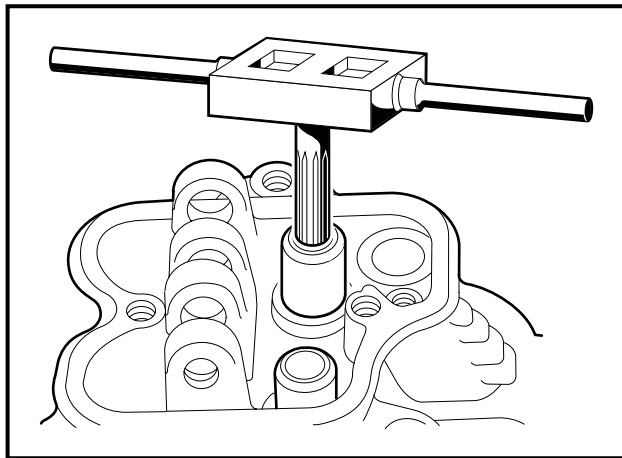

Figure 13-22 Ream Valve Guide
5. Ream the guide with a stanisol or kerosene lubricant and a valve guide reamer (CCI 101641201). The valve guide inside diameter should be 0.2756 - 0.2762 inch (7.000 - 7.015 mm) (**Figure 13-22, Page 13-14**).